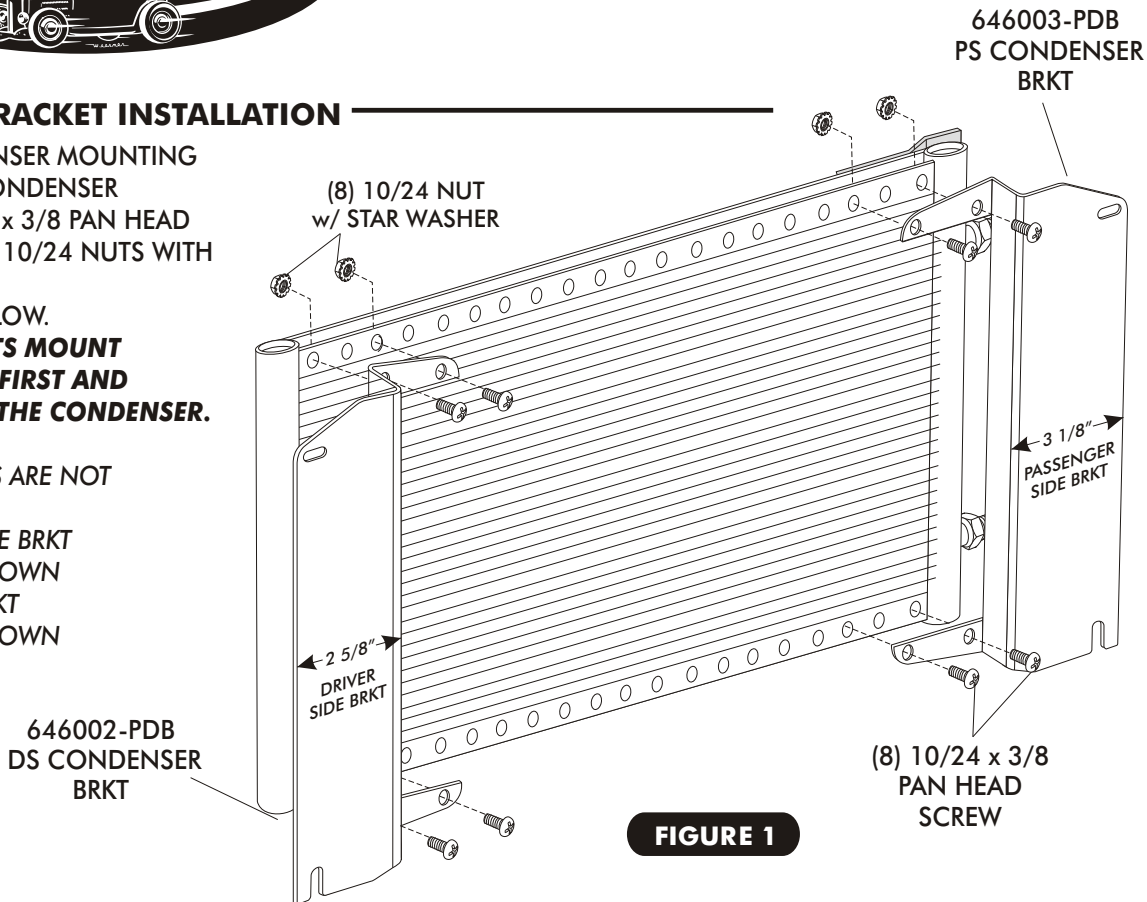

FIGURE 1
- INSTALL CONDENSER MOUNTING BRACKET ON CONDENSER USING (8) 10/24 x 3/8 PAN HEAD SCREWS AND (8) 10/24 NUTS WITH STAR WASHERS. SEE FIGURE 1 BELOW.